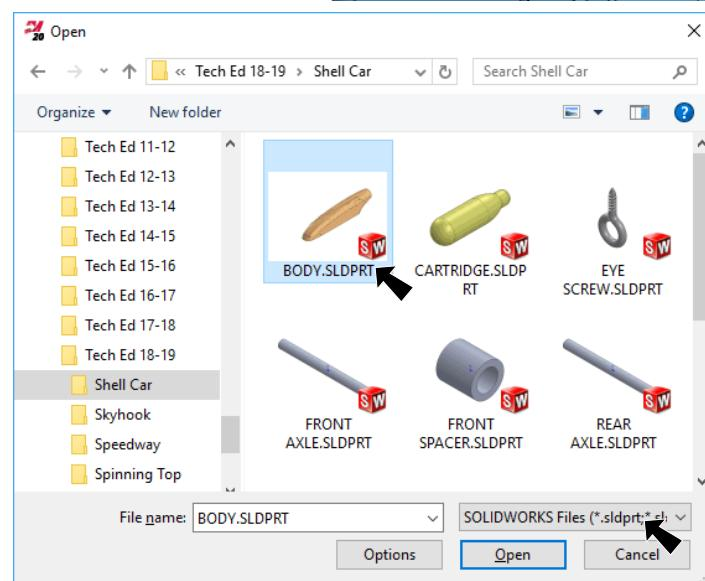

Fig. 1
Step 3. In the Open dialog box set **Files of type** to **SOLIDWORKS Files**, select your **BODY** file and click Open, **Fig. 1.**